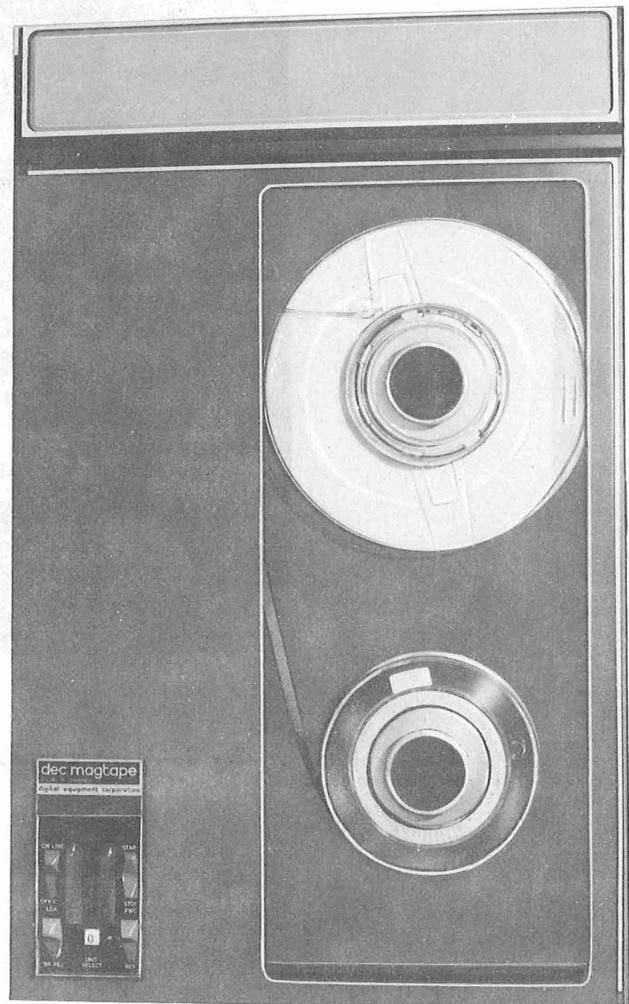

Fig. 1—TU16 Magtape Unit
4.01 The TU16 magtape unit is shown in Fig. 1.